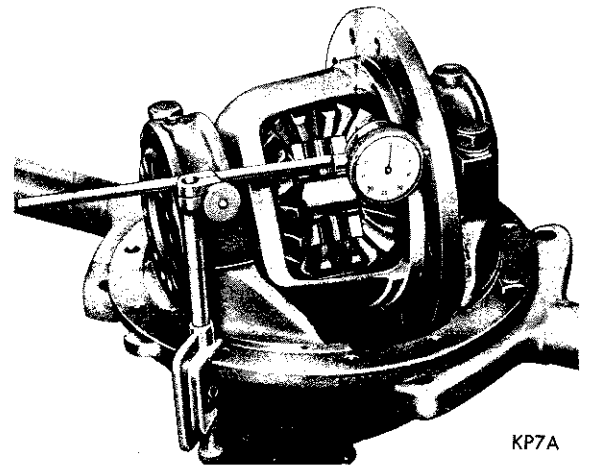

Fig. 19—Checking Drive Gear Mounting Flange Runout
(3) If the drive gear runout was found to be more than .005 inch (Paragraph "Carrier Disassembly") test the case as follows: Install the differential with bearing cups in the carrier.
(4) Install the bearing caps, attaching bolts and bearing adjusters. Snug the bearing cap bolts down lightly and screw in both adjusters with spanner wrench Tool C-406A.
(5) Tighten the support cap bolts and adjusters sufficiently to prevent any end play in the bearings.
(6) Attach a dial indicator Tool C-430 or Tool C-3339 to the differential carrier flange so the pointer of the indicator squarely contacts the drive gear surface of the differential case flange between the outer edge of the flange and the drive gear bolt holes (Fig. 19).
(7) Rotate the differential several complete revolutions while noting the total indicator reading. This reading must not exceed .003 inch runout. If the run-